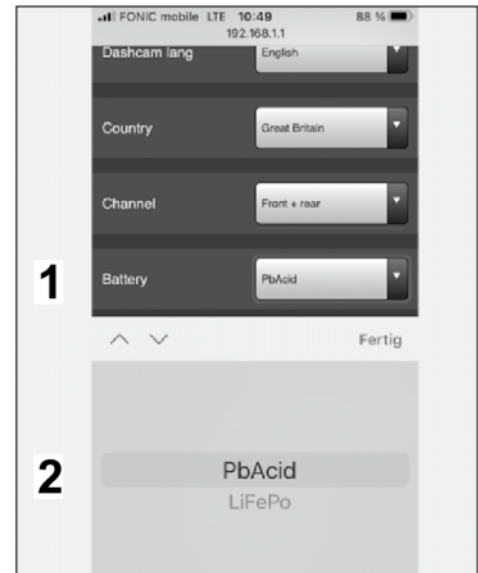

Figure 24
5.3.4 Select the battery type (⇒ *Figure 24*)